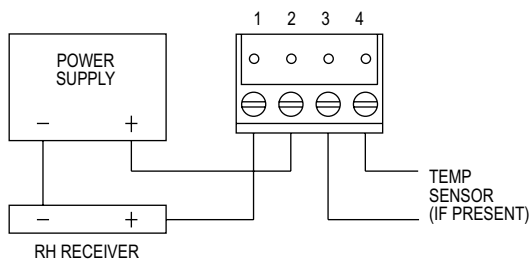
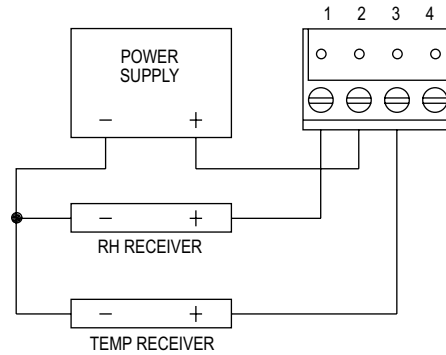

Figure 1
Figure 2
5. Proceed with wiring according to Figure 1.
Use maximum 18 AWG wire for wiring terminals. Refer to Figure 1 or Figure 2 for wiring information. Terminal blocks are removable for ease of wiring.
4-20 mA output units may be powered with a 10-35 VDC supply. (Wire as shown in Figure 1).
Dual 4-20 mA output units may be powered with a 10-35 VDC supply. The following describes the proper wiring of these transmitters: The model RHP transmitter with dual 4-20 mA output is designed as a 2-wire 4-20 mA device with two channels. The channels are common on the positive side of the current loop. Sensor excitation power is derived from the RH channel, so power must always be applied to that channel. If the temperature channel is not used, it can be left disconnected. Wire as shown in Figure 2.